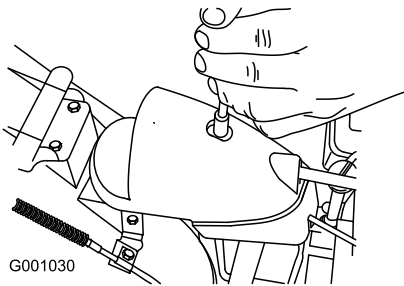

Figure 41
- Remove the fastener on the gear cover (Figure 41), lift the front of the cover up, and slide it back and out of the way.